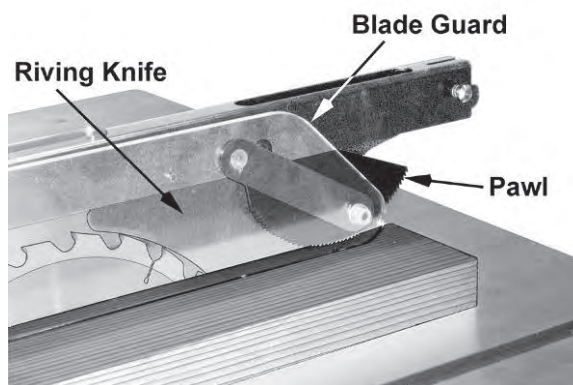

Figure 23
- As the machine receives use, the operation of the anti-kickback pawls should be checked periodically (Figure 23). If the pawls do not stop the reverse motion of a workpiece, sharpen all the points.